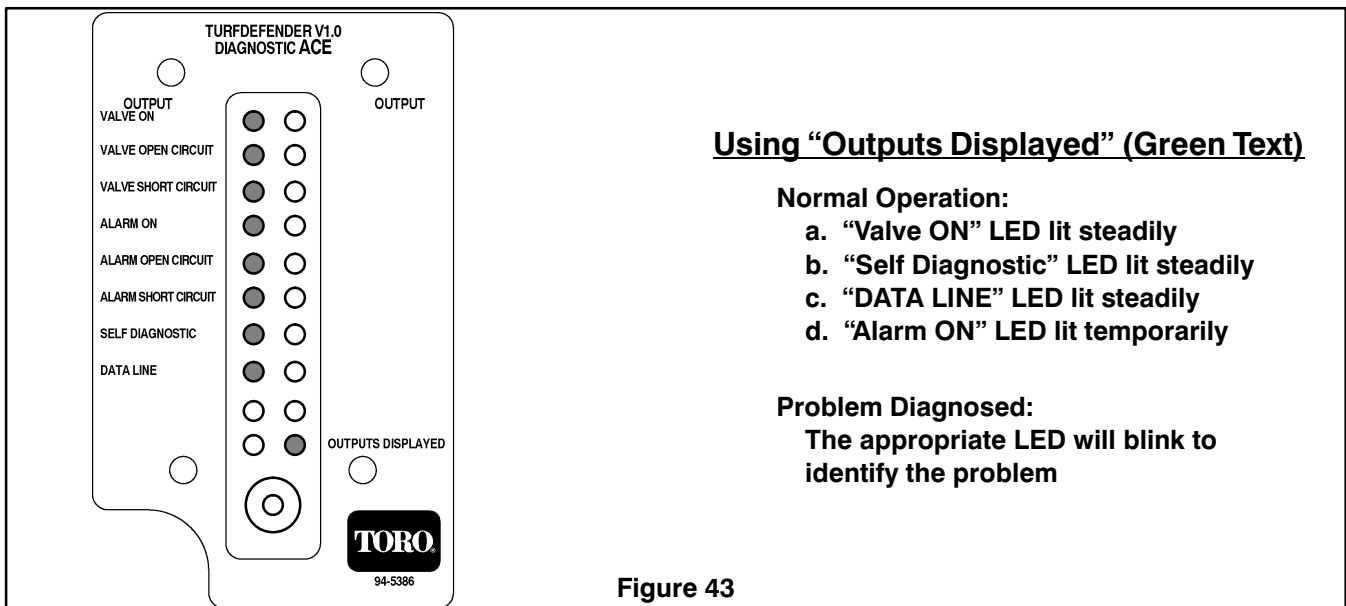

Figure 43
2. Press toggle button until green "Outputs displayed" LED is lit. "Valve ON", "data line" and "self diagnostic" LED's should be lit steadily. "Alarm ON" LED may be displayed temporarily (about 5 seconds) (Fig. 43).
2. Toggle "outputs displayed" on Diagnostic ACE display (Fig. 43).
2. When toggling “output” a LED should display (Fig. 43) any of the following problems diagnosed by the TurfDefender: